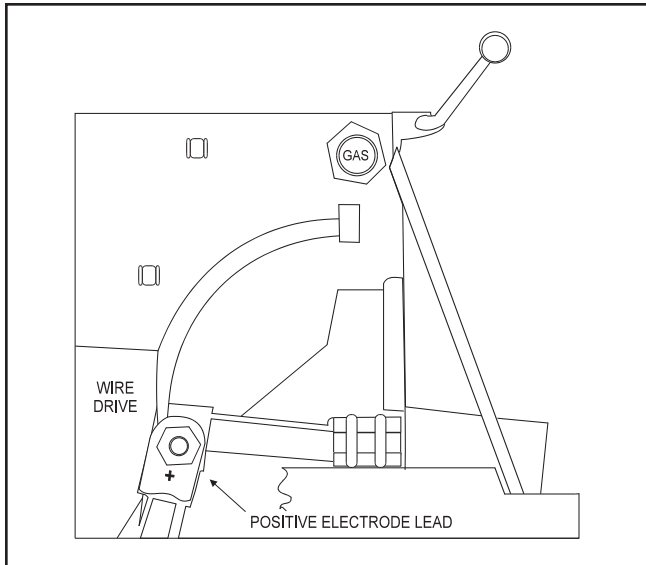

FIGURE C.4 - Spool Gun Connection Box Installation.
- a. Connect the plug to the kit receptacle when installing the Spool Gun Module Board. See **Figure C.4**.